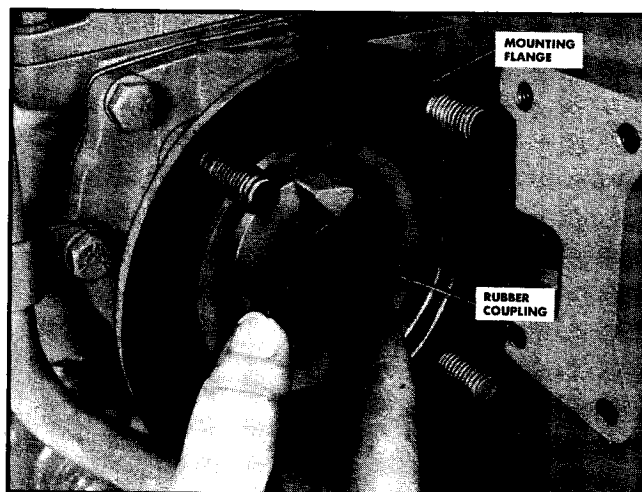

Fig. 12-80. Fuel pump drive rubber coupling
1. Assemble rubber buffer to air compressor housing. Fig. 12-80.